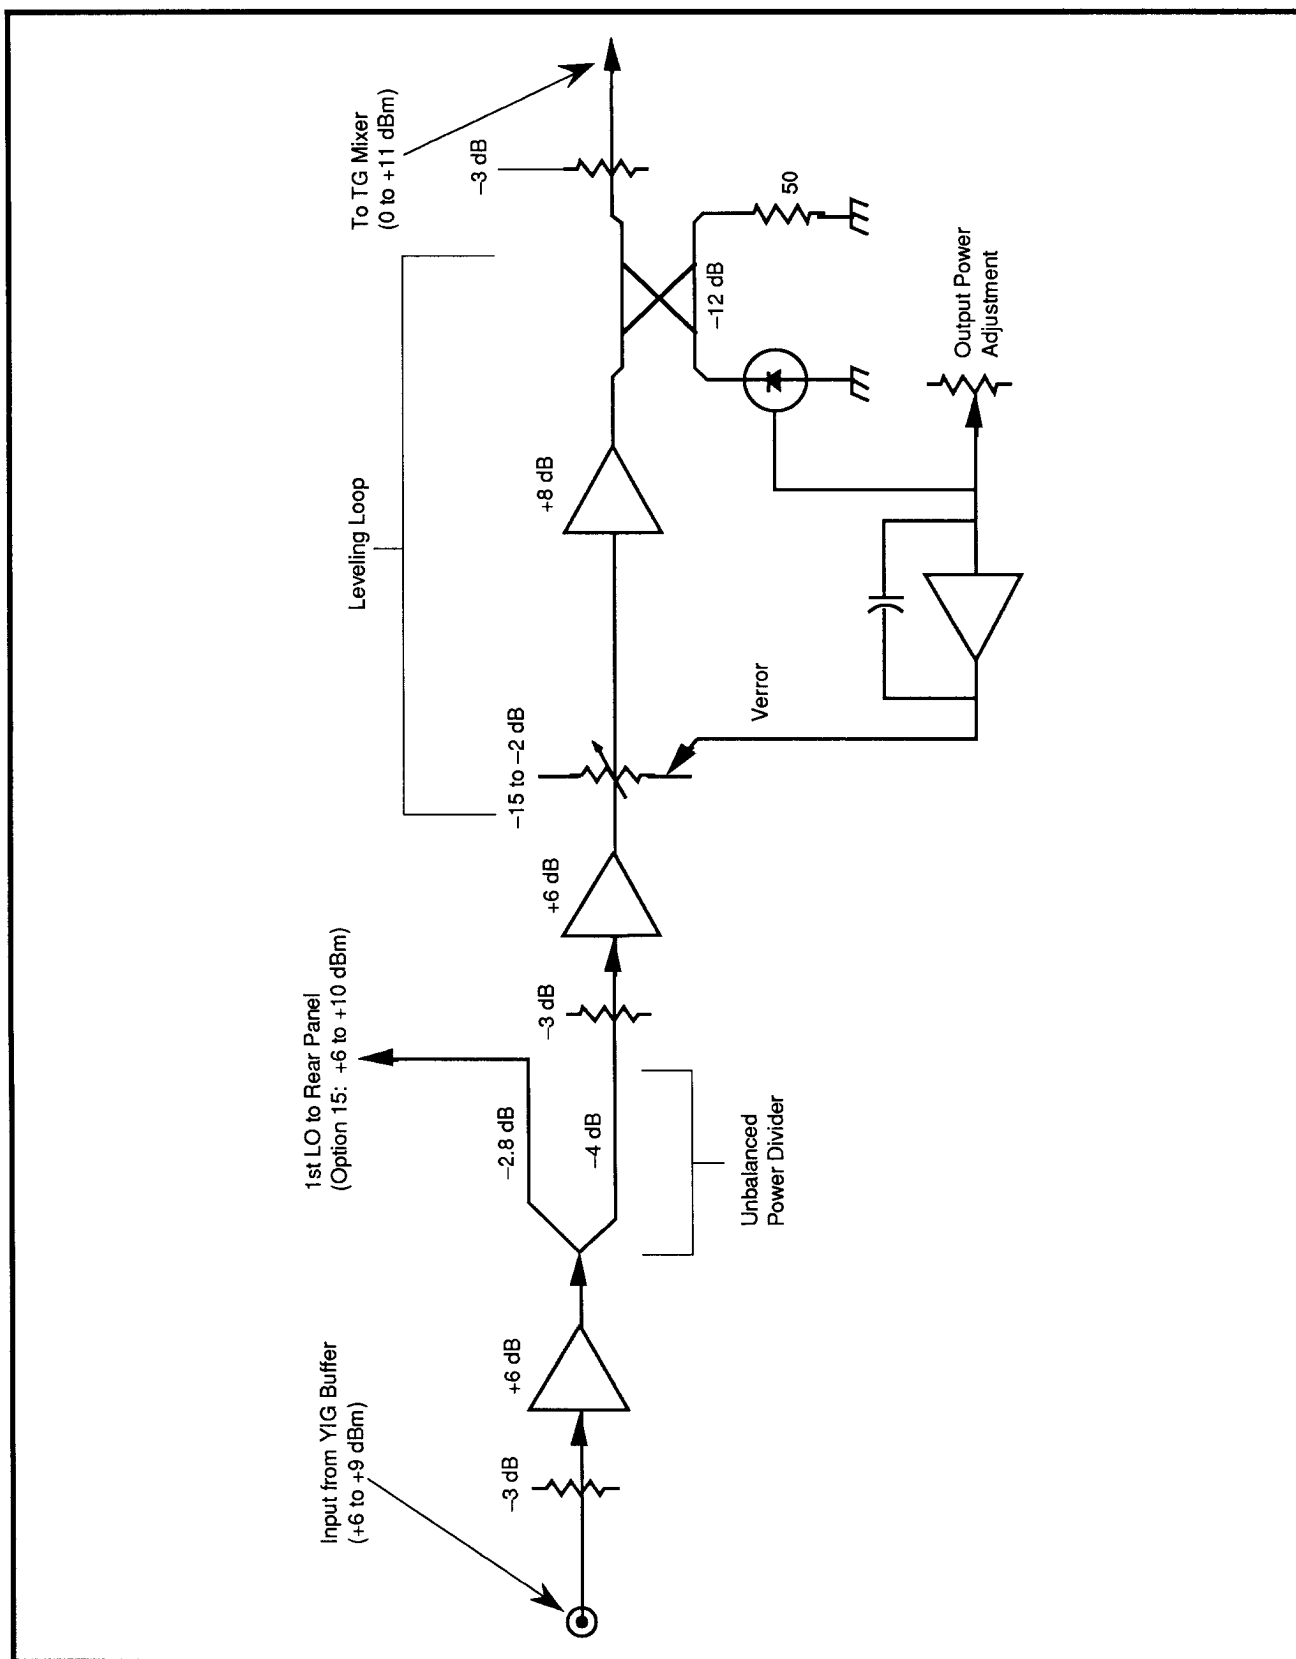

Figure 7-29. Isolation Amplifiers block diagram.
The tracking generator receives the 1st LO (2110 MHz to 3910 MHz) from the spectrum analyzer's 1st LO Buffer Amp (at a power level of +6 dBm to +9 dBm) through an SMA connector. A 3 dB attenuator is placed between the input and the first isolation amplifier. This amplifier provides a forward gain of +6 dB and a reverse gain of -25 dB. The amplifier's output (LO) drives an unbalanced power divider. See Figure 7-29.